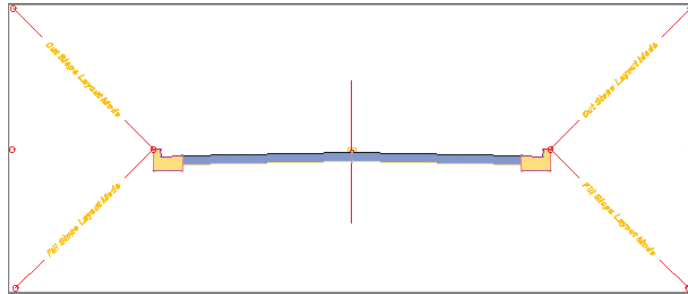

FIGURE 9.13 The assembly with newly added BasicSideSlopeCutDitch subassemblies on either side
10. Click the marker in the upper-left corner of the Left Curb subassembly. Click the marker in the upper-right corner of the Right Curb subassembly. The assembly should now look similar to Figure 9.13.